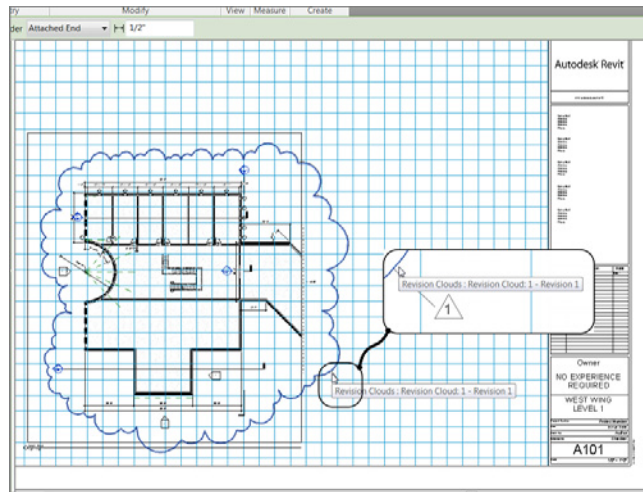

FIGURE 14.19: The revision tag has been added to the cloud. Also, notice that the title block has Revision 1 added to it.
9. Pick the revision cloud. It's now tagged (see Figure 14.19).